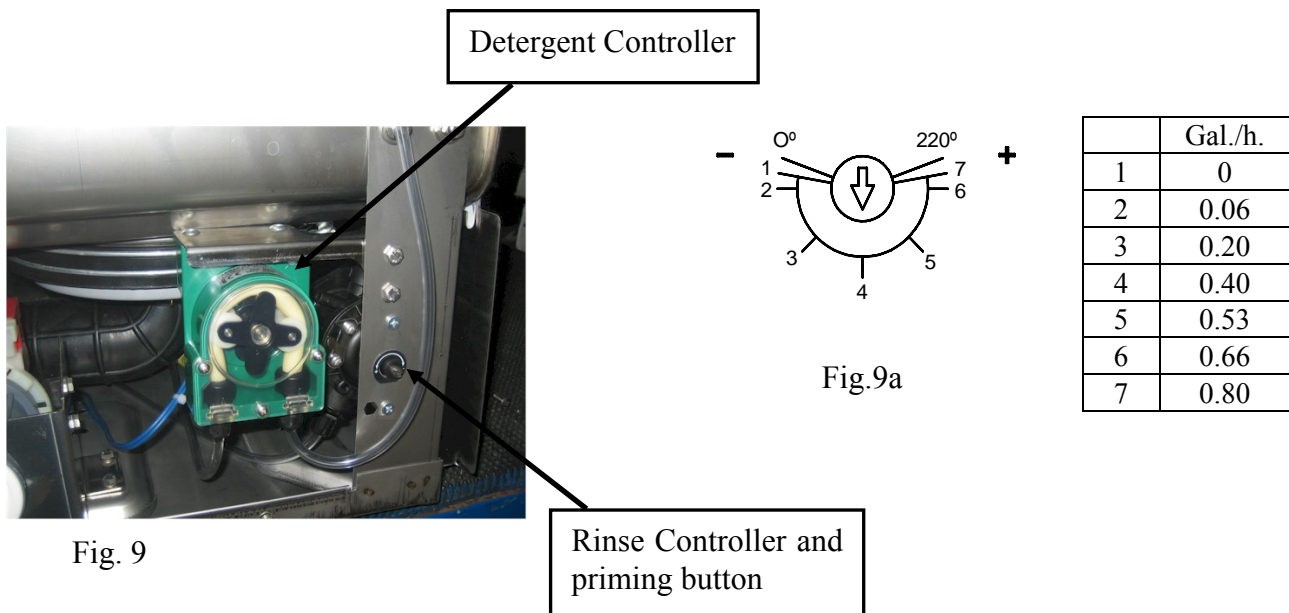

Fig. 9
- Remove the overflow tube by inserting a finger into the top of the tube. (Fig. 9)
- Switch selector switch (1) back to the OFF position.
- If desired you can control the amount of Chemical being dispensed by opening the bottom front panel of the machine. Locate the detergent dispenser (Fig. 9) and regulate according to the flow chart (Fig. 9a). For the Rinse, turn the button counterclockwise to get more rinse aide and clockwise for less. You prime the line by pressing the button.